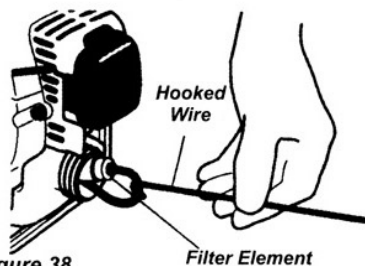

Figure 38
- Use a wire hook to extract the fuel filter from inside the fuel tank (Figure 38). Inspect the fuel filter element for signs of contamination. Replace it with a new one if required. Before reinstalling the filter, inspect the fuel line. If you find damage or deterioration, remove the unit from service until it can be inspected by a trained service technician.